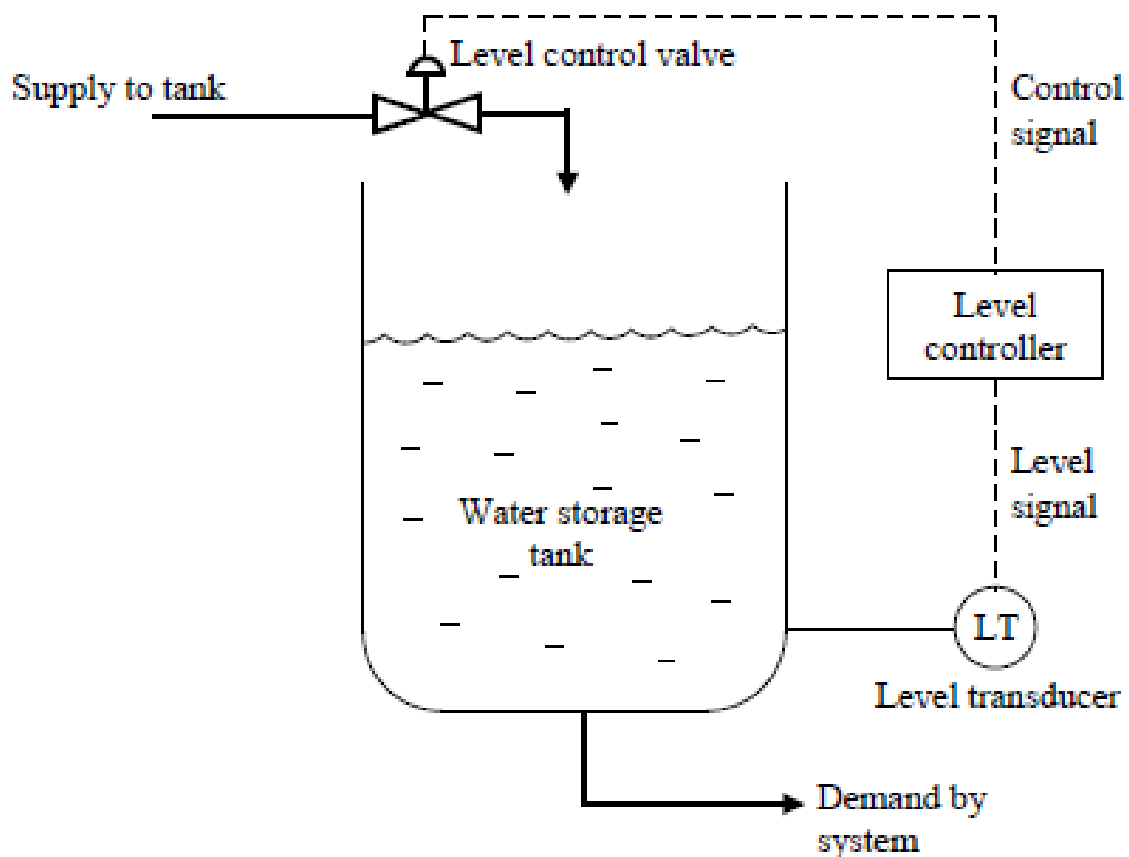

Figure 1[a]
1. [a] Figure 1[a] shows a closed-loop control system used for controlling the level of water storage tank. Identify the various important elements of the closed-loop system shown.